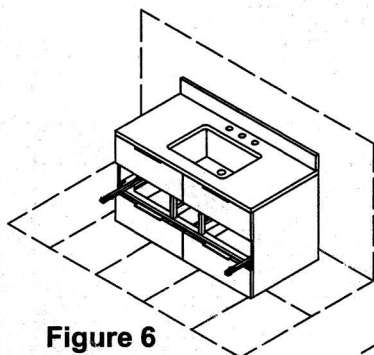

Figure 6
- Fully extend the slide rail out . See Figure 6.